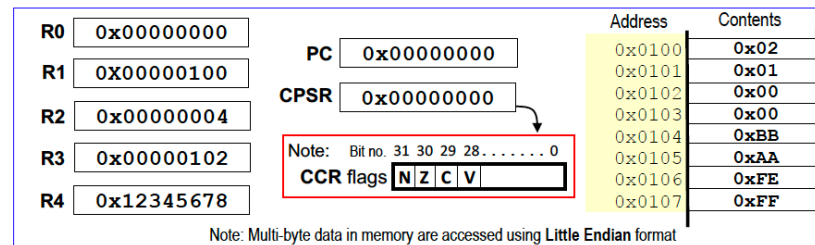

Figure 1 – Initial state of some ARM processor registers and memory contents
- (1) Give the name of the source operand addressing mode for each mnemonic in Table 1.
- (2) Give the 32-bit content in register **R0** immediate after the execution of each instructions in Table 1. (Note: Each execution is independent of the others and uses the same initial values shown in Figure 1 and Little Endian byte-ordering is assumed).